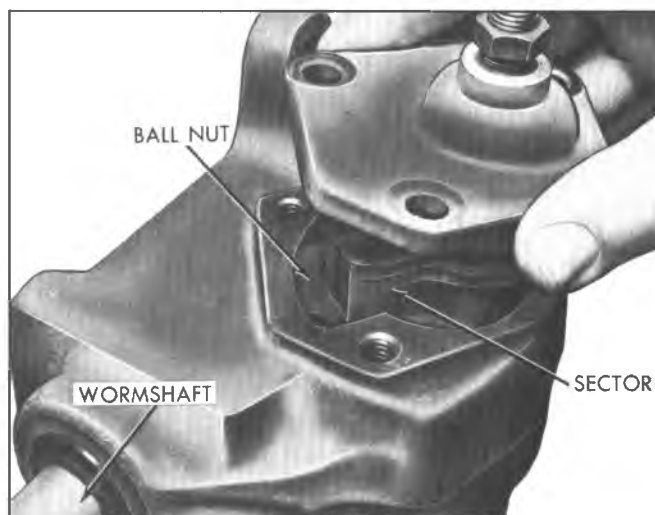

Fig. 5--Removing Pitman Shaft Assembly--Typical
4. Tap lightly on the end of the pitman shaft with a plastic hammer and lift the side cover and pitman shaft assembly from the gear housing (fig. 5).